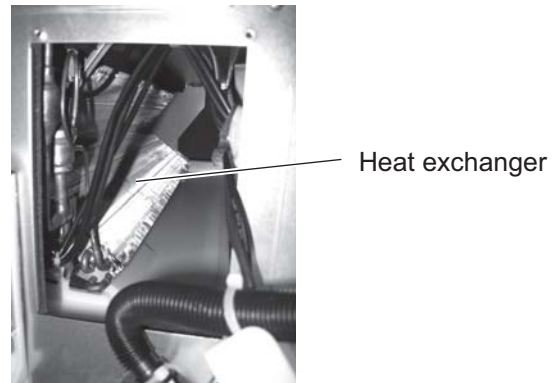

**Fig. 1**
2. Remove the lid (drain pump). (Fig. 1)
3. Remove the drain plug and drain the water from the drain pan. (Fig. 1)